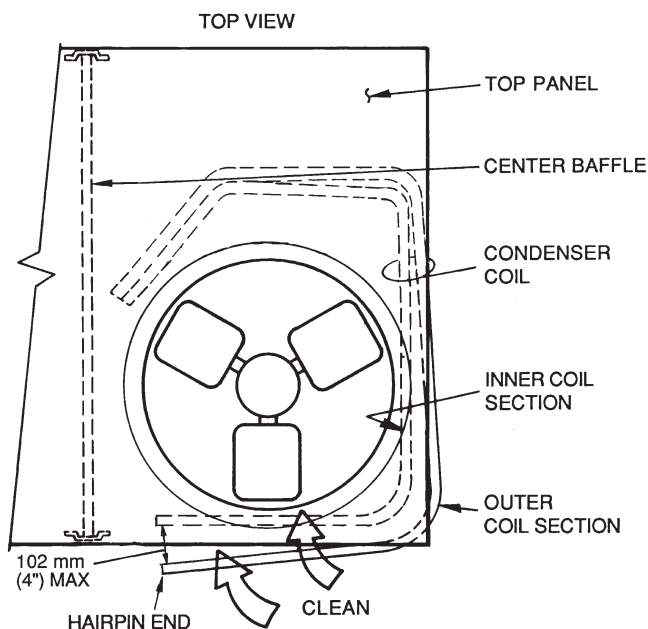

Fig. 18 — Separating Coil Sections
5. Remove fastener holding coil sections together at return end of condenser coil. Carefully separate the outer coil section 3-in. to 4-in. from the inner coil section. See Fig. 18.